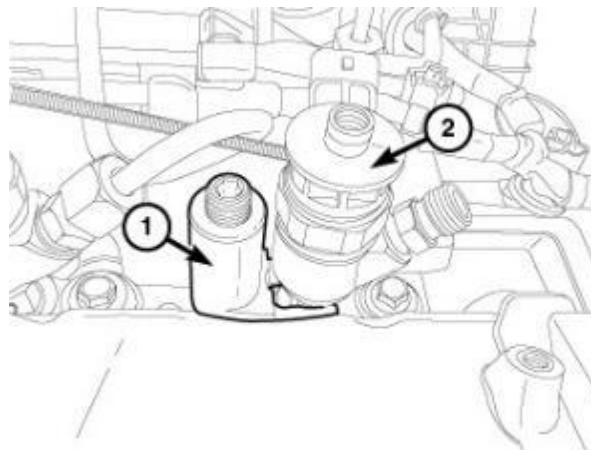

Figure 35 – Fuel Injector Removal Tool
44. If the fuel injector can't be removed by hand, install the Remover, Fuel Injector VM.10358A (1) to remove the fuel injector (2) (Figure 35).